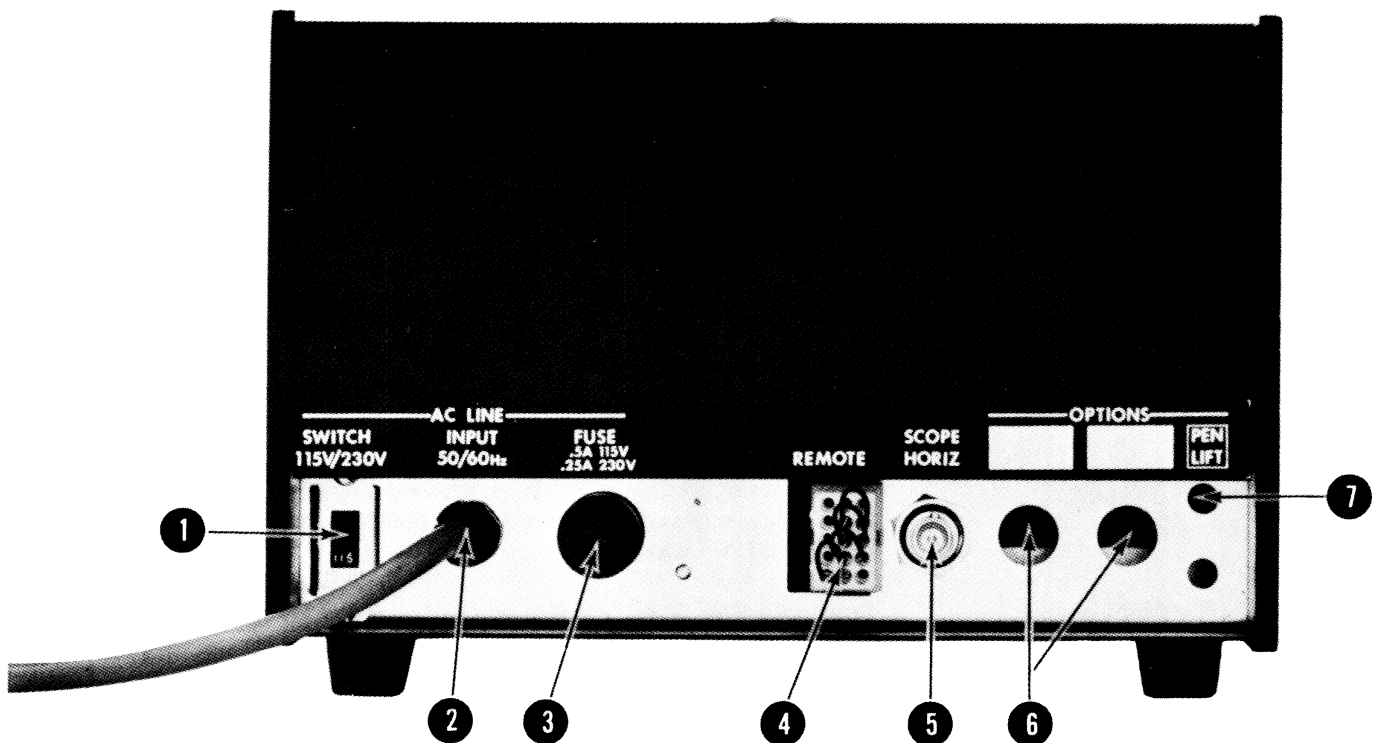

Figure 3-2. Rear Panel
3.3 DESCRIPTION OF REAR PANEL (Refer to Figure 3-2 for location)
① SWITCH 115/230V –